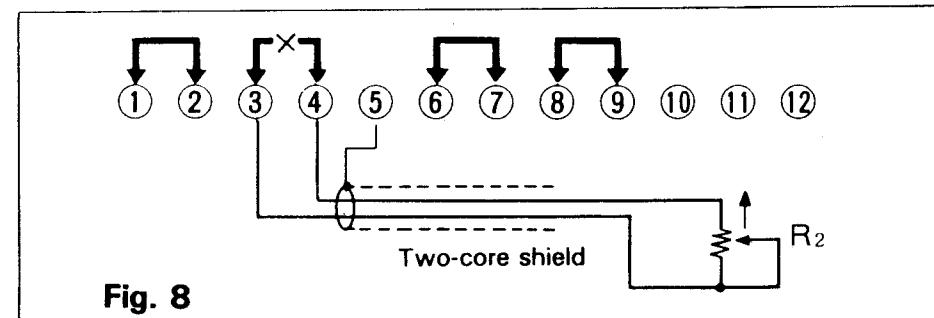

Fig. 8
- 2) Remove the short bar ③ - ④ and connect variable resistor  $R_2$  across ③ and ④ as shown Fig. 8. Use a two-core shield cable and connect the shield line to ⑤ .